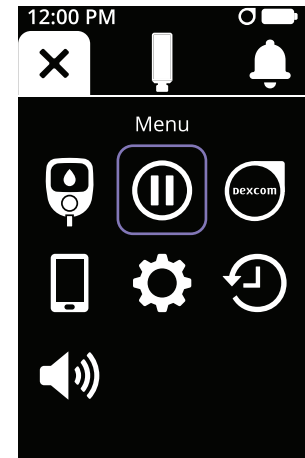

Figure 106
- Tap the Pause Insulin icon (see Figure 106).